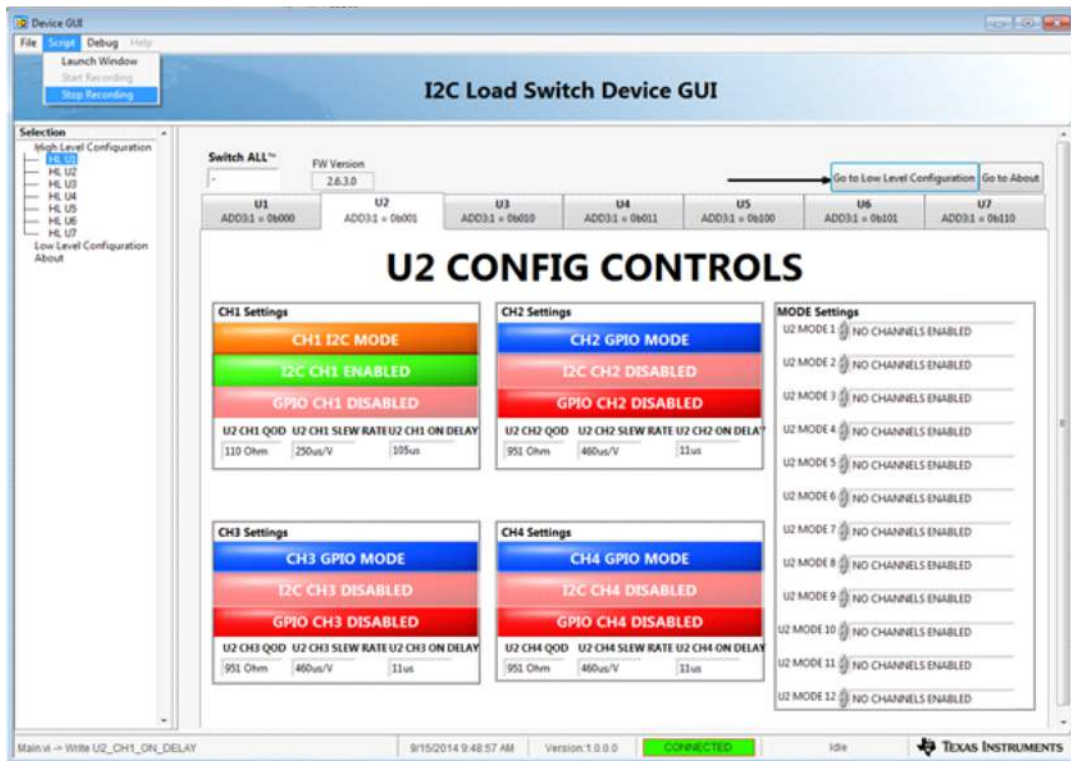

Figure 18. Python Script Window Stop Recording
- (I) Go to the script drop down menu and select Stop Recording, see Figure 18. The Python window should now have the GUI.\_\_del\_\_() command added to the last of the script and the Python window should have stopped flashing green.